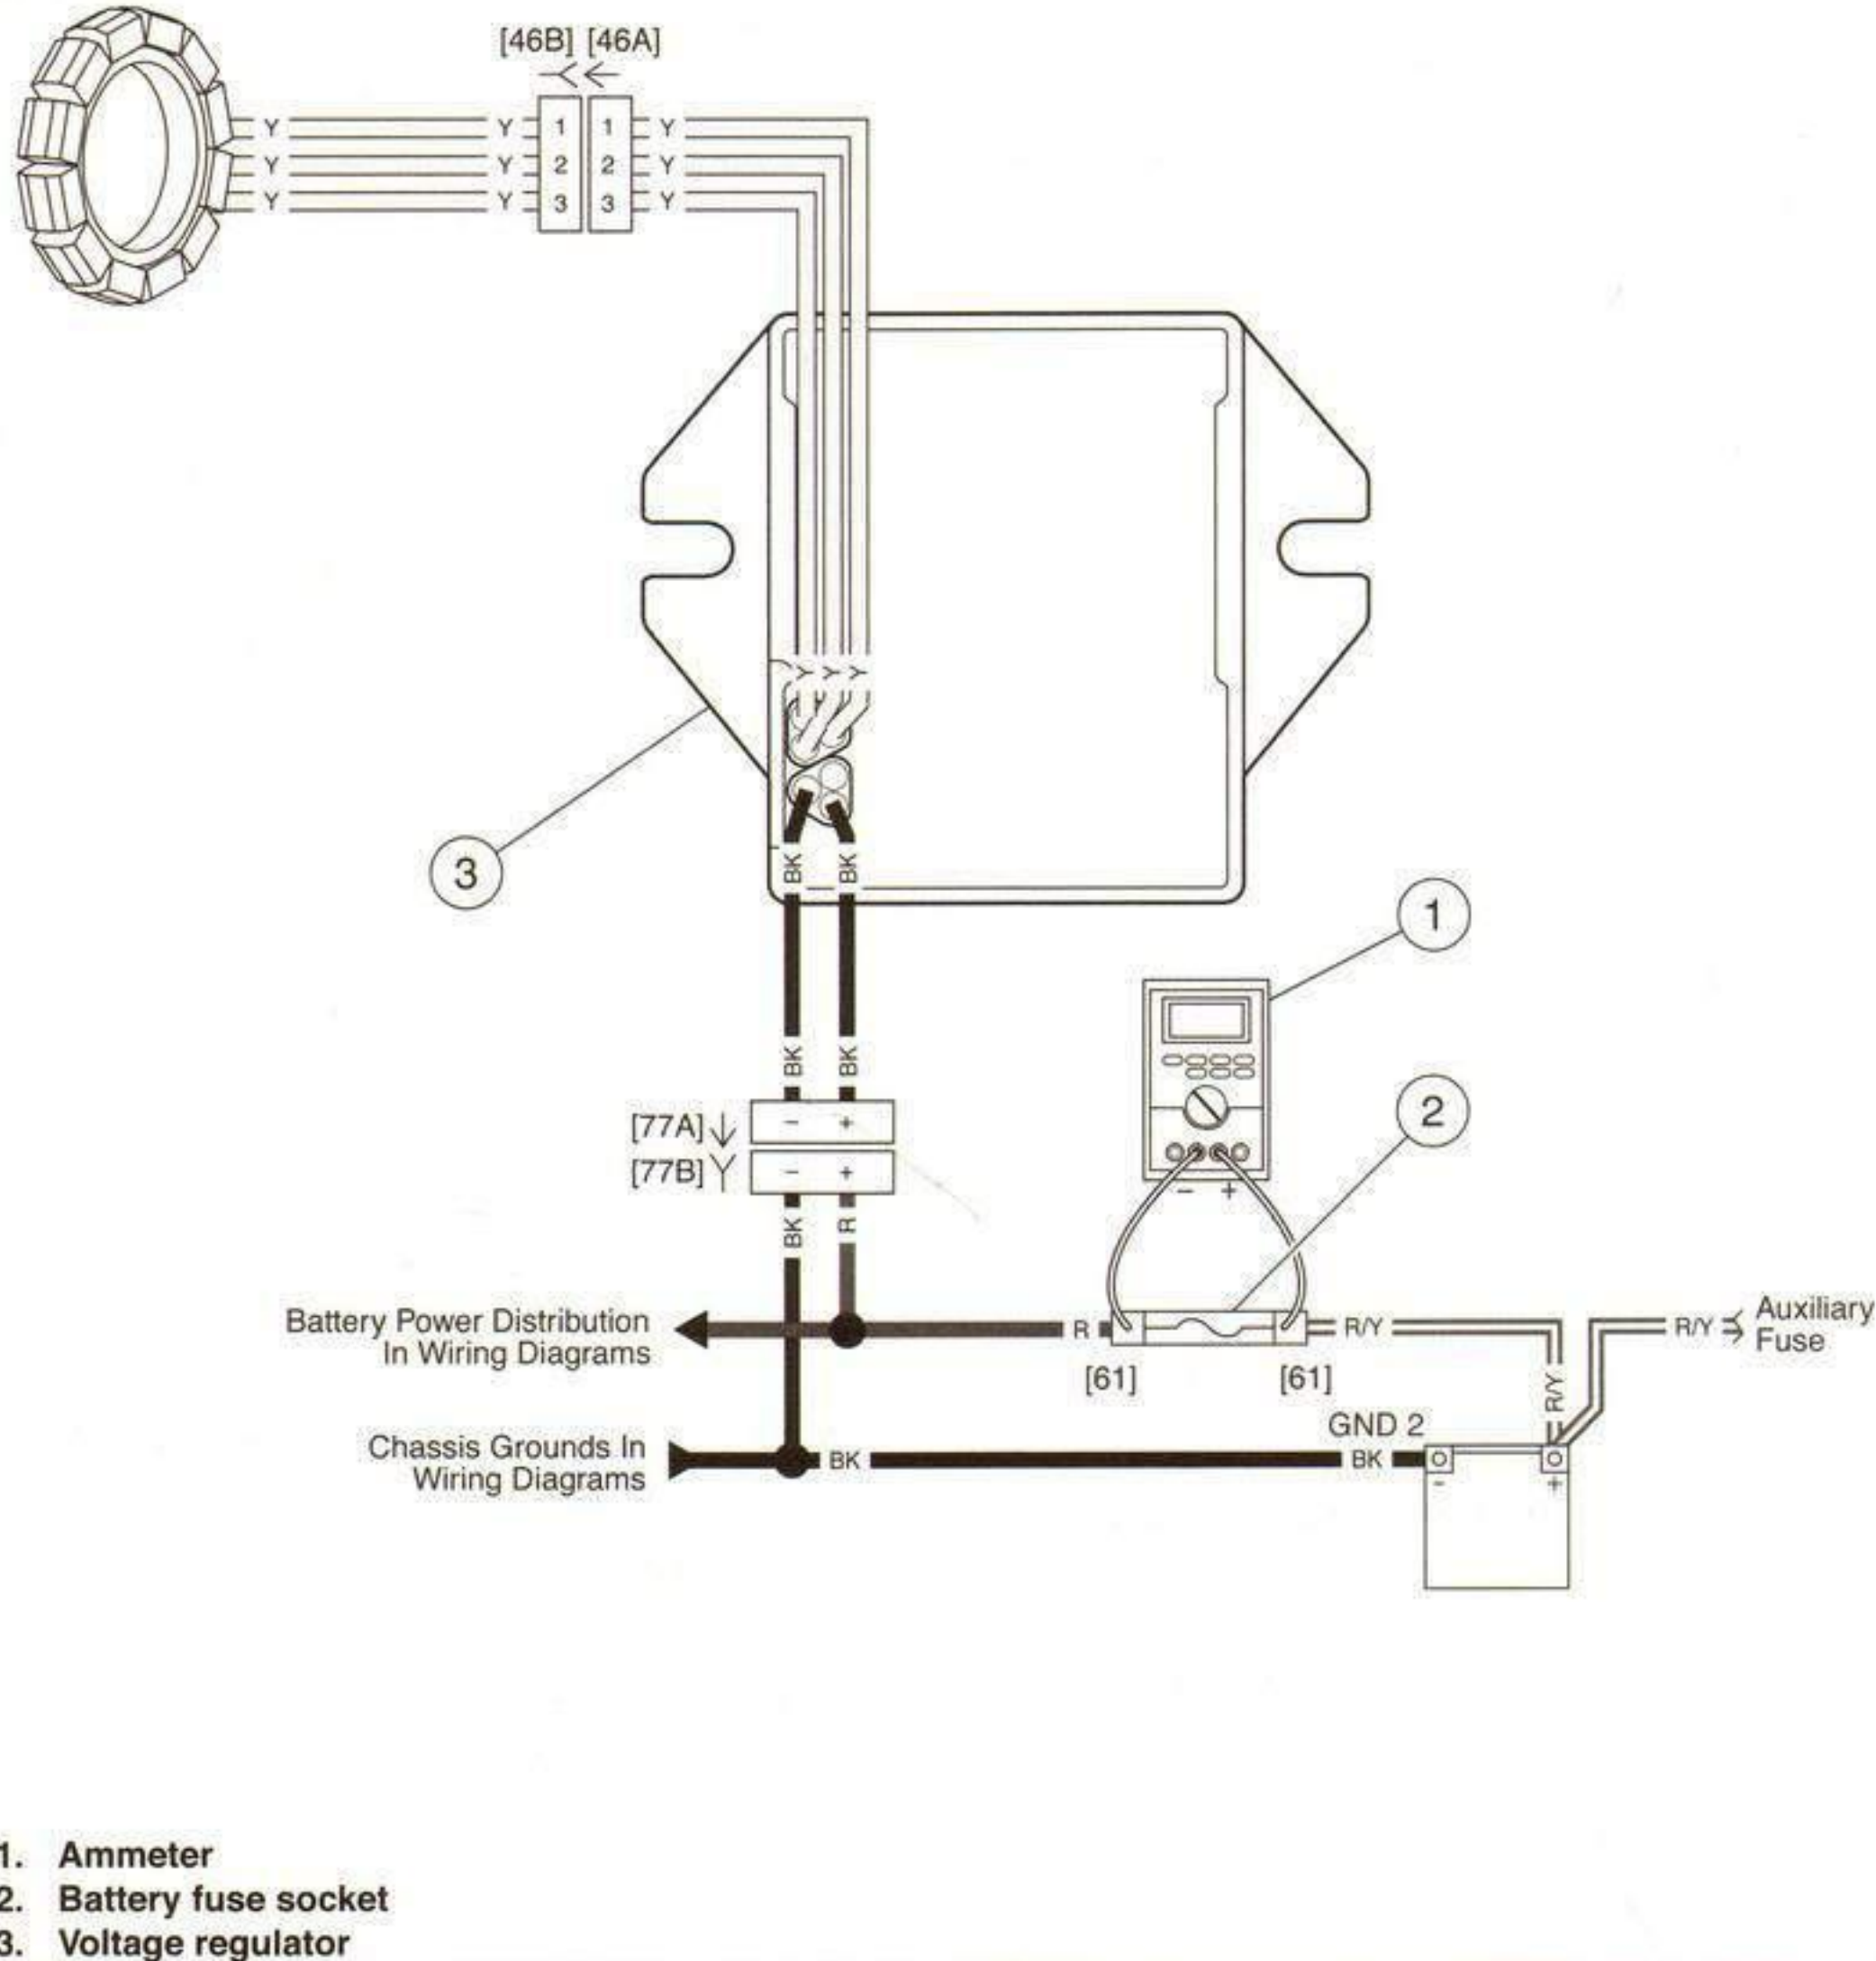

Figure 3-13. Milliampere Draw Test (Ignition Turned to OFF)
2. See Figure 3-13. Using HARNESS TEST KIT (Part No. HD-41404-B) purple male socket probes and patch cords, connect ammeter to battery fuse socket terminals. With this arrangement, any regulator drain is picked up.